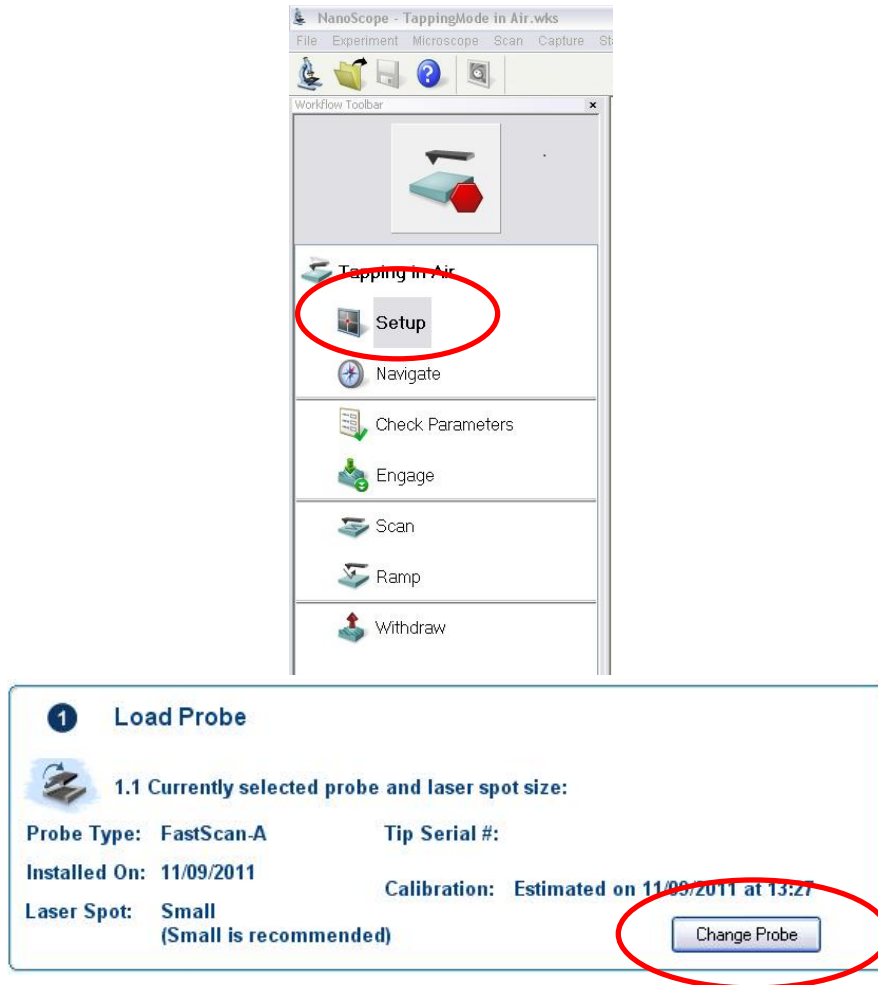

Figure 11. Workflow Toolbar with Setup circled at top. The "Change Probe" option is circled at bottom.
- 15) After loading the Z-scanner, go to the Setup workflow window in Nanoscope (Figure 11).
- a) Select "Setup" in the workflow column, then click "Change Probe" (Figure 11).
18) Go to the Navigate window in the Nanoscope Workflow Toolbar (Figure 11).
- 20) Prior to engaging the surface, go to the Check Parameters window in the Workflow Toolbar (Figure 11).
- 21) Click Engage in the Workflow Toolbar (Figure 11).
- 26) Once imaging is complete and all images are captured and saved, select Withdraw from the Workflow Toolbar column (Figure 11).
- 27) Move the tip further away from the sample and sample chuck by opening the “Setup” workflow window and clicking the “Change Probe” icon (Figure 11).